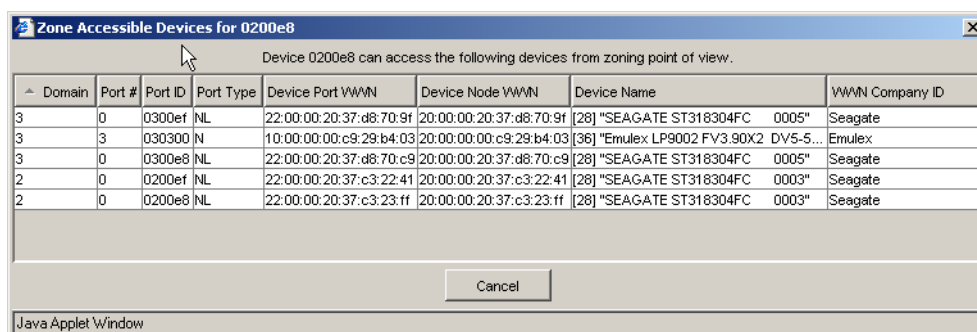

Figure 112 Zone Accessible Devices dialog box
3. Select a device from the Domain column and then click the **Accessible Devices** button to access the Zone Accessible Devices window (see Figure 112). You can also access the Zone Accessible Devices window by selecting the domain you want, right-clicking anywhere in the selected row, and clicking the **Accessible Devices** selection.